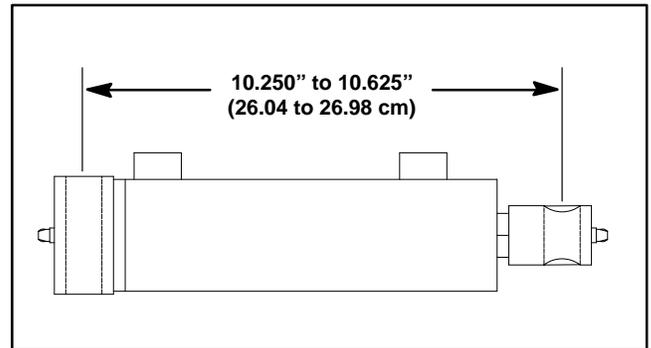

Figure 90
7. If clevis was removed from cylinder shaft, fully retract cylinder shaft and thread jam nut and clevis onto shaft. Adjust center to center length to dimension shown before tightening jam nut (Fig. 90).